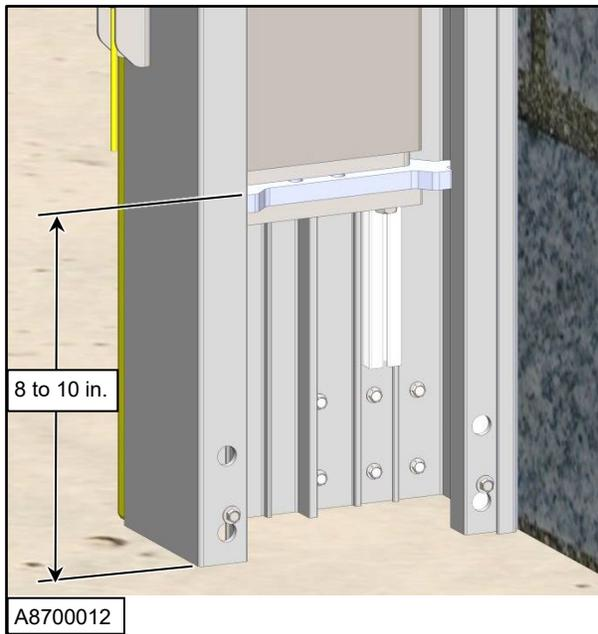

Figure 49
5. Securely block the counterweight in the position shown in Figure 49.